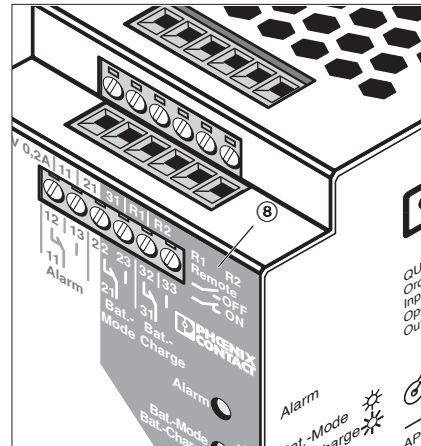

Figure 12
5.9. Remote Shutdown ("Remote", Fig. 12)